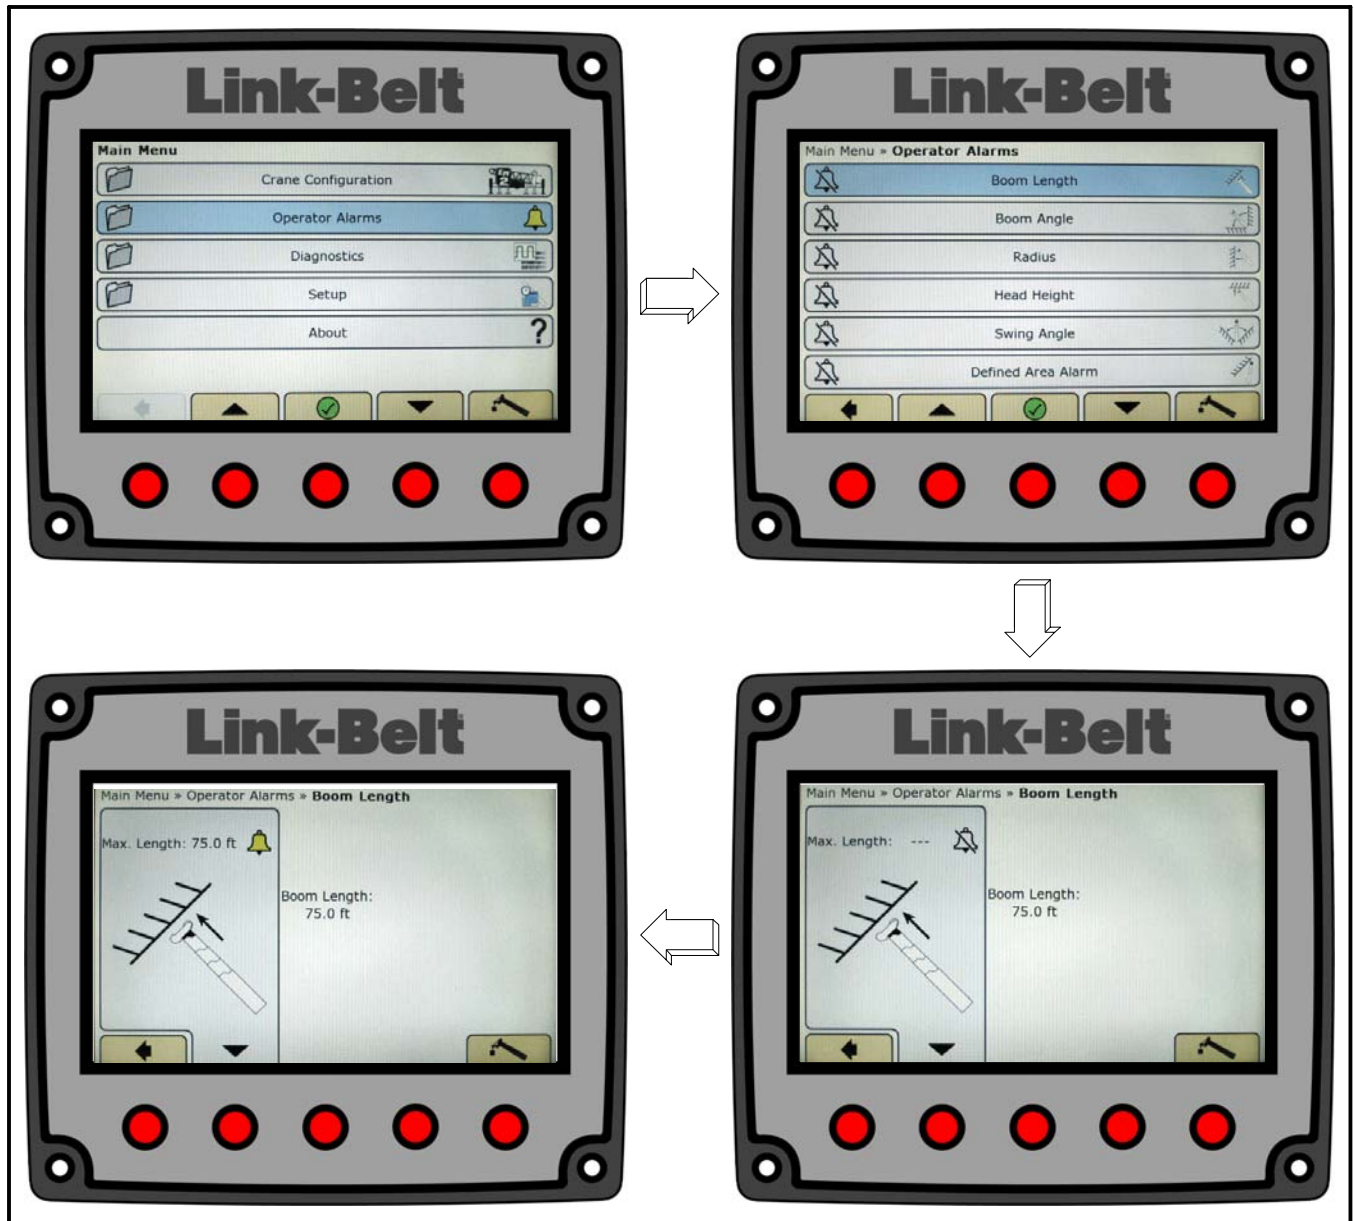

Figure 1—83
1. From the normal working screen, press the Main Menu button . Refer to Figure 1–81.
2. Scroll to Operator Alarms, and press the OK/Enter button . Refer to Figure 1–82.
1. From the normal working screen, press the Main Menu button . Refer to Figure 1—81.
2. Scroll to Operator Alarms, and press the OK/Enter button . Refer to Figure 1—82.